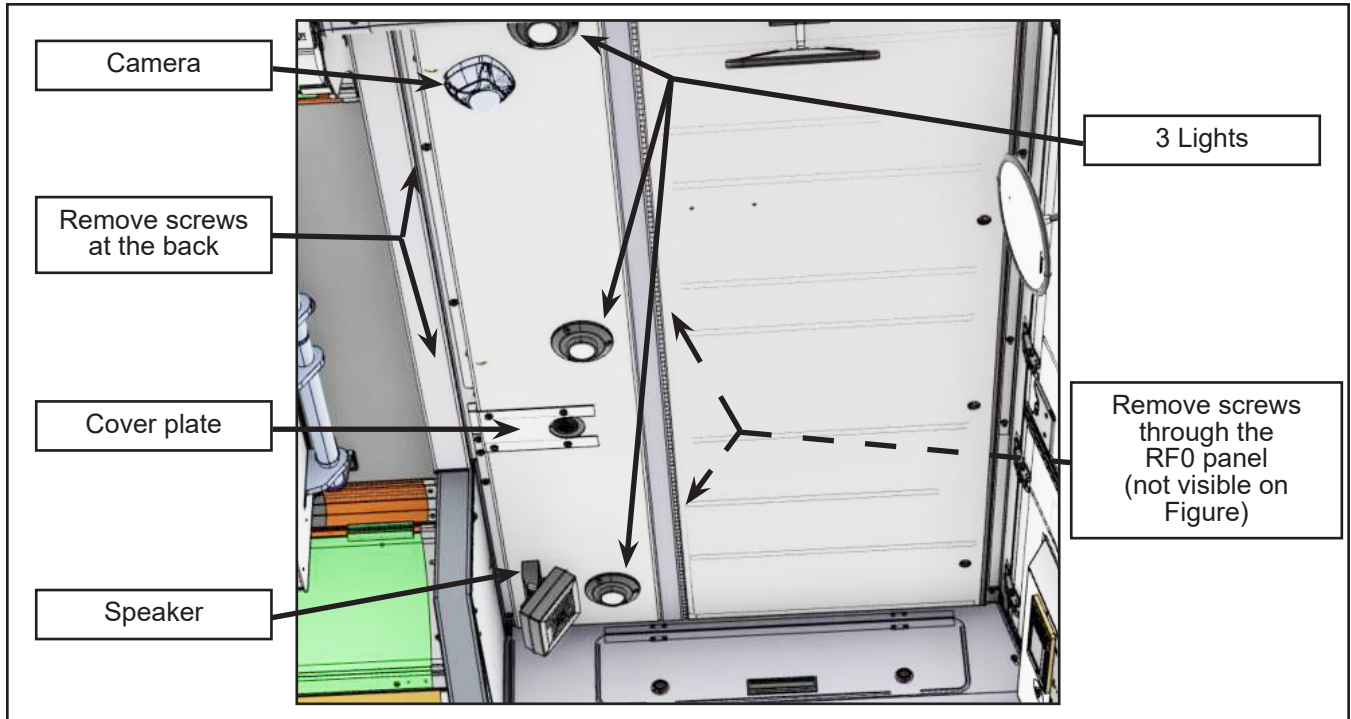

Figure 2 - 3-Lights Panel
- 1.5. Remove the 3-lights panel (Figure 2). Keep all parts and hardware.